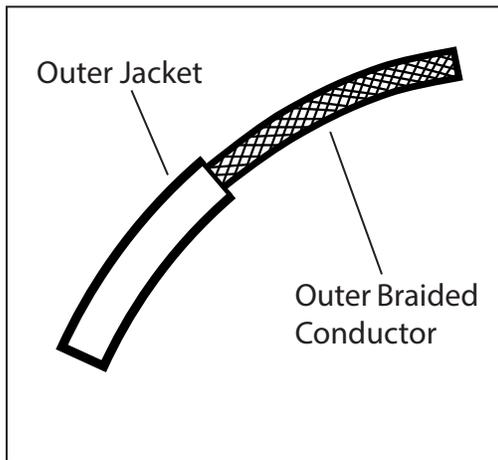
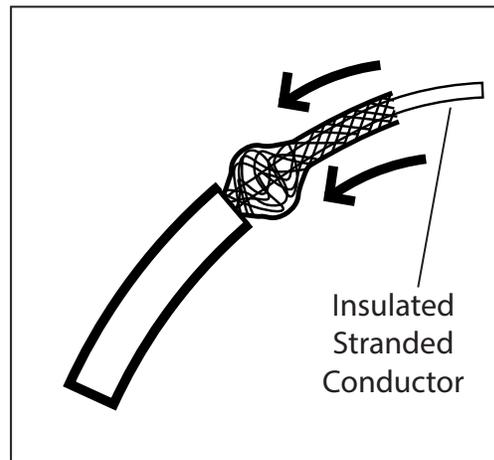

Fig. 1
Fig. 2
3. Fig. 1 - Install each shade by lowering the shade connector (A) over the cord collar (B), sliding it forward until it stops, then tightening the shade screw (C). If the shade connector can't move forward, first loosen the screw slightly. Fig. 2 shows completed shade.
1. Make a 1" slice along the length of the cord's outer jacket (Fig. 1). **CAUTION: Do not cut through the outer braided conductor.**
2. Carefully strip the outer jacket of the cord and keep the outer braided conductors intact (Fig. 1).
3. Slide the outer braided conductor back to create a bulge and reveal the inner stranded conductor (Fig. 2).